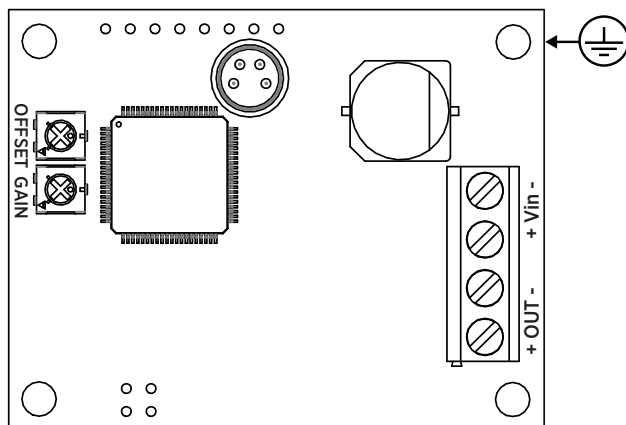

Figure 1 Component Board (3-wire Version)
- 1. Attach the module securely using the mounting holes on the corners of the component board. Use the optional mounting bracket if needed. Be sure to provide an earth connection from the plated mounting hole. See Figure 1 \(page 2\).